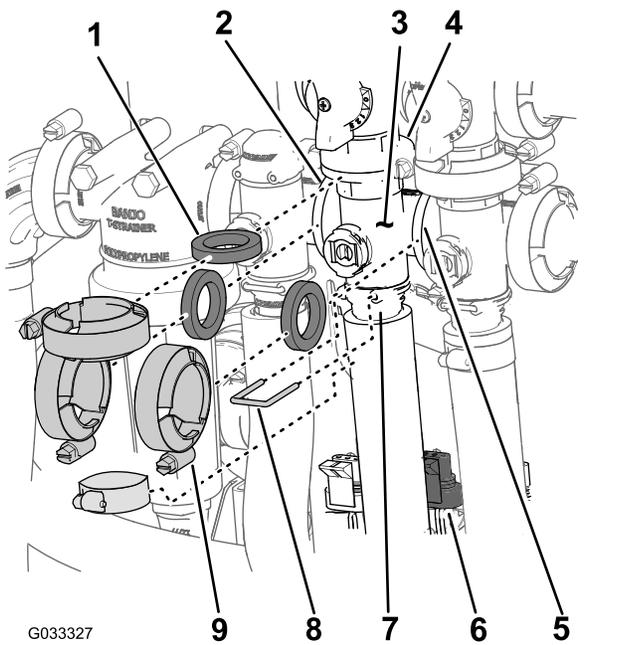

Figure 70
1. Remove the clamps and gaskets that secure the manifold for the agitation valve (Figure 70) to the agitation-bypass valve, rate-control valve, master-section valve, and adapter fitting (agitation-throttle valve).
2. Remove the retainer that secures the outlet fitting to the manifold for the agitation valve (Figure 70).